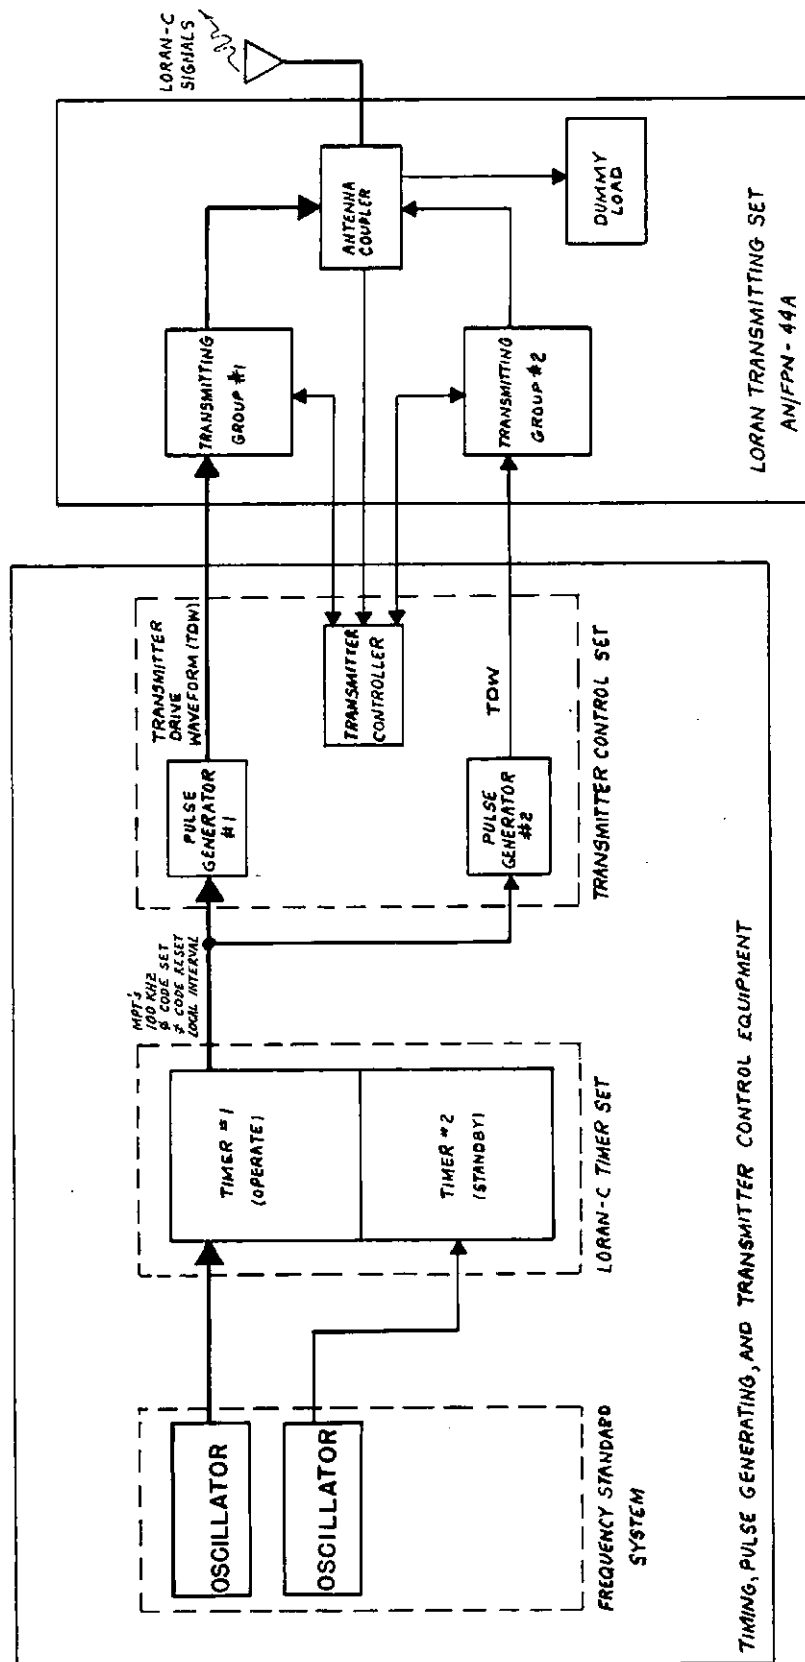

Figure 4-1. Loran C Transmitting Station Equipment Configuration
b. LORAN-C GROUND STATION. - A typical equipment configuration at a Loran-C station, shown in figure 4-1, includes: timing, pulse generation, and transmitter control equipment, Loran Transmitting Set AN/FPN-44A, and an antenna. The Loran Transmitting Set consists of two functionally identical transmitting groups, an antenna coupler and a dummy load. Each transmitting group interfaces with a pulse generator, and both groups interface with a transmitter controller.